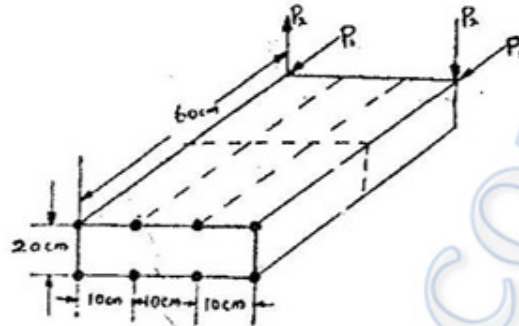

Fig. Q. 15 (b)
- (b) Find the Margin of Safety for the box beam shown in fig. Q. 15 (b) given : $P_1 = 12 \text{ kN}$ and $P_2 = 10 \text{ kN}$. Area of each stringer = 3 cm^2 and the sheet thickness is 2 mm throughout. Assume the sheets are effective in bending and made of 2024-T3 Aluminum alloy. For $a/b=2$, $K_c = 5$, $K_s = 6.5$ and for $a/b=3$, $K_c = 4$, $K_s = 5.8$.